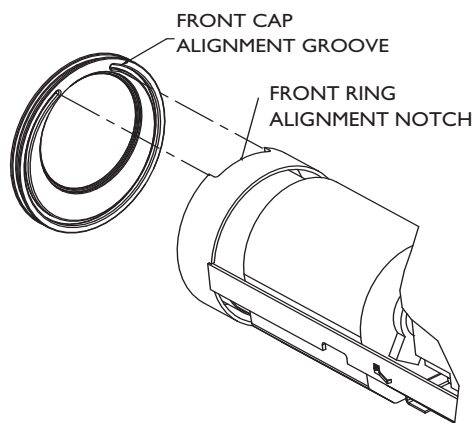

FIGURE 17 Alignment of Cradle Assembly with Front Cap Assembly
4. Align the Cradle Assembly with the Front Cap. The Cradle Assembly has an alignment notch that fits snugly into the Front Cap alignment groove and must be fitted as shown in FIGURE 17 for the housing to close securely.